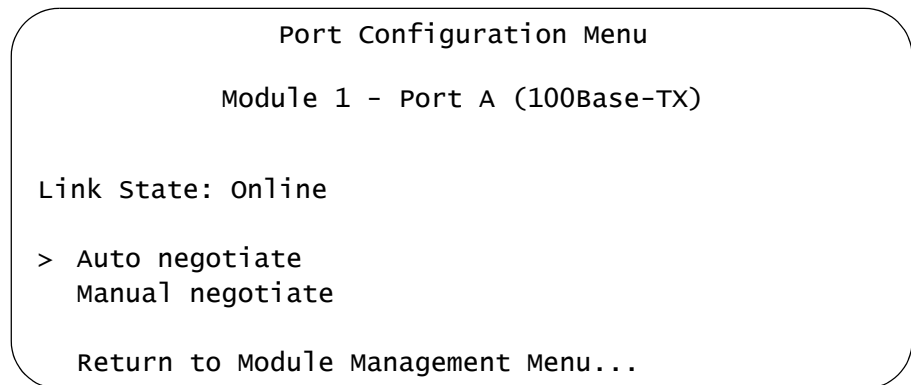

Figure 35. Port Configuration Menu for the 10/100Base-TX Port on the Management Card
3. Select **Port A (100Base-TX)** to display the Port Configuration Menu shown in Figure 35.